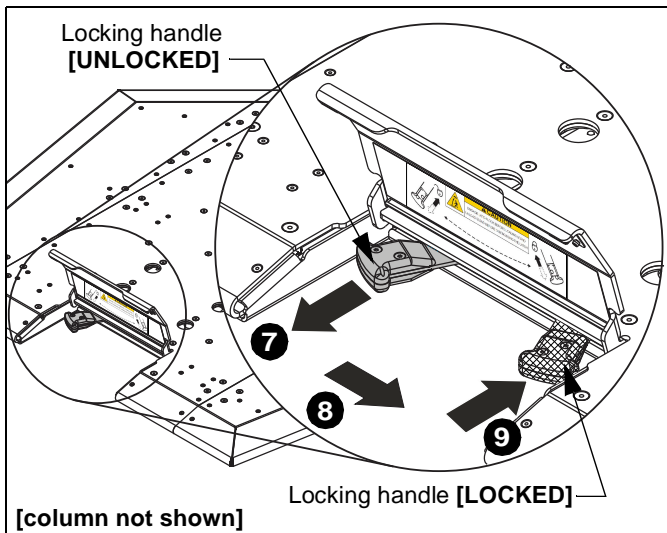

Figure 6
7. Pull out column latching handle. (See Figure 6)
8. Move handle to right until it retracts at the far right side of opening. (See Figure 6)
9. Ensure that handle retracts into base (A) to lock column (B) into place. (See Figure 6)